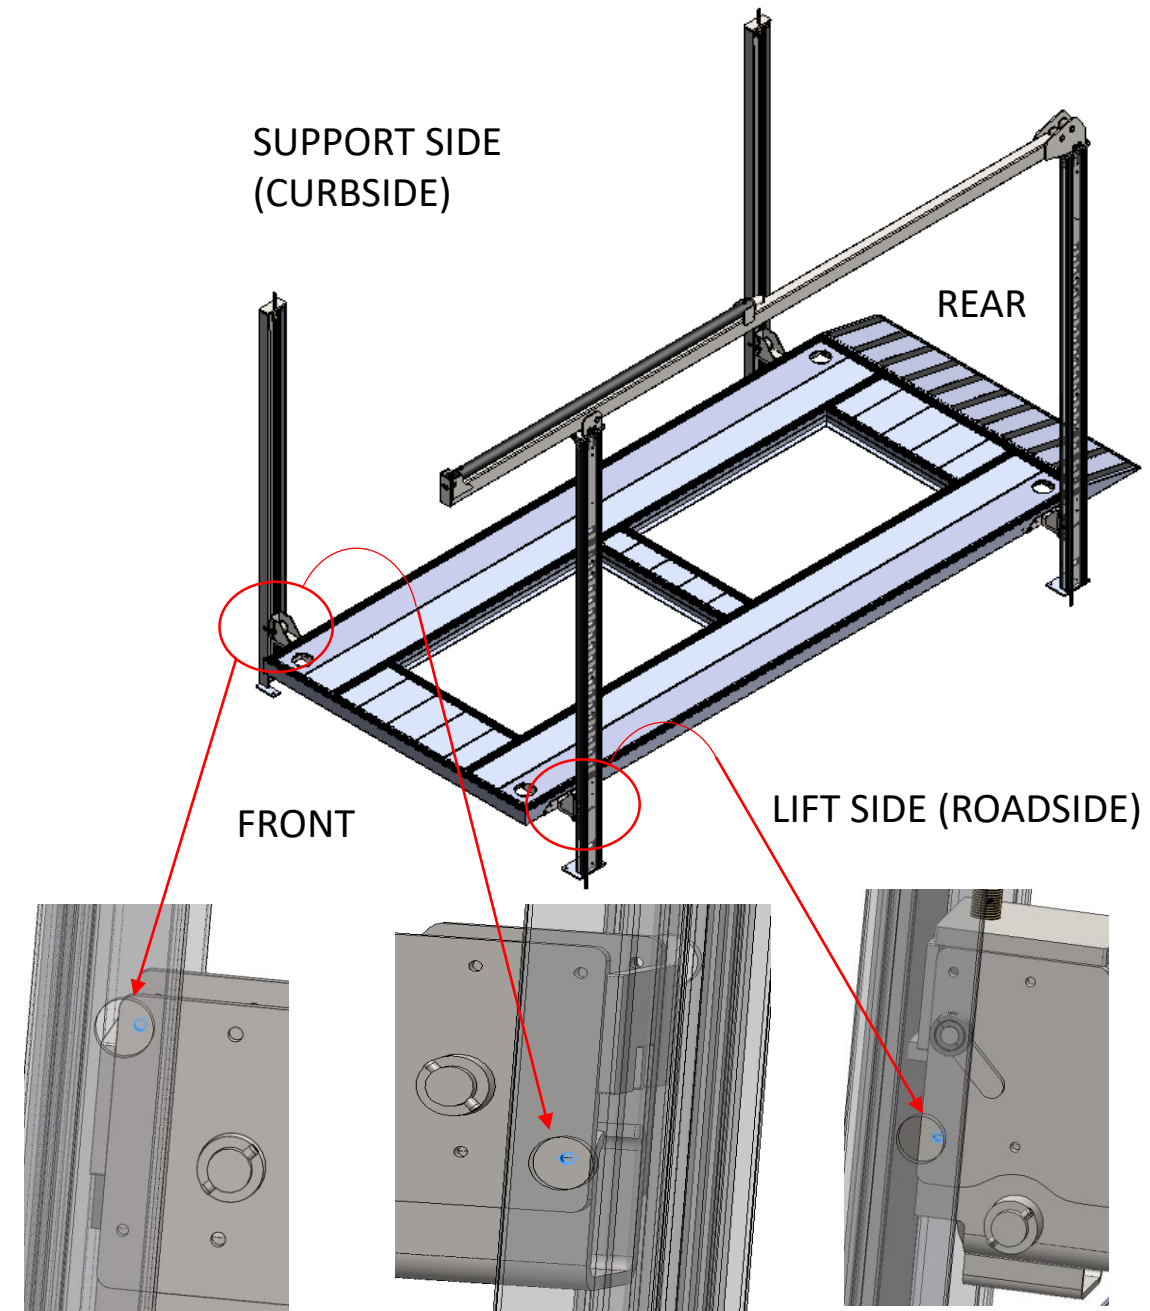

Figure 8
20. Lift or lower the platform so that the top hole on the front plate of the front support side cross-beam is exposed as show in *Figure 8*.